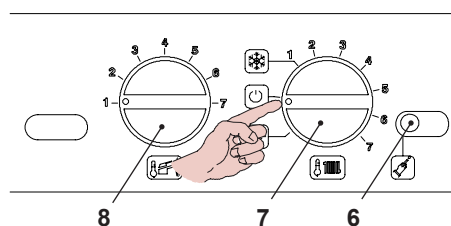

Figure 15.6
- Turn the function selector 7 as shown in Figure 15.6.
To reset the boiler turn the knob 7 (figure 15.6) on the “U” position and then press and release the boiler reset button 6 (Fig. 15.6).